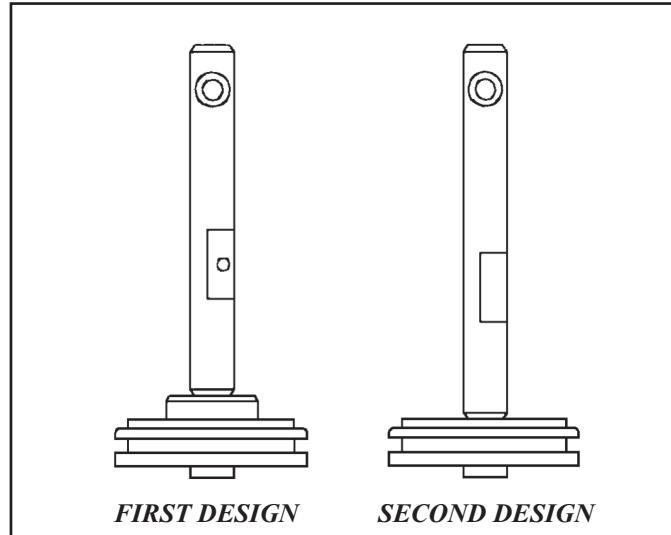

Figure 202
- IMPORTANT:** When installing the servo piston into the case bore, use care not to roll or cut the seal. If the servo piston is being replaced, be sure the proper design is being used as the two designs are NOT interchangeable (See Figure 202).